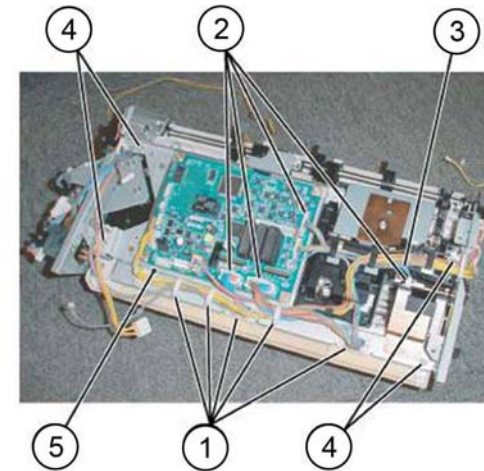

Figure 2 Bottom plate removal
8. Remove the bottom plate, Figure 2:
- a. Release the harness from the five clamps (1).
- b. Disconnect 8 connectors (2).
- c. Release the harness from the retainer (3).
- d. Remove four screws (4).
- e. Remove the bottom plate (5).